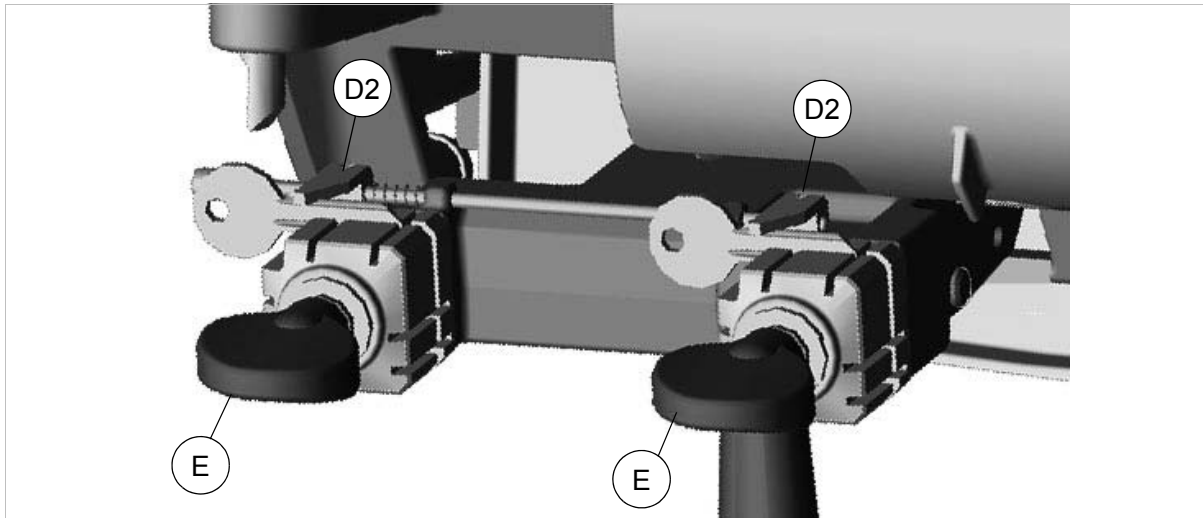

Fig. 31
- b) the key stop is resting against the calibration tabs (D2) (fig. 31);
- 2) secure the keys by closing the clamps with the knobs (E).